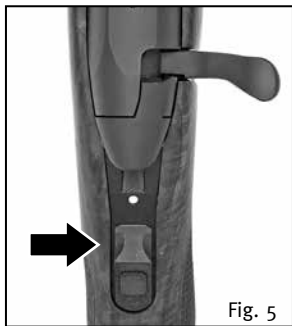

Fig. 5
If the forward set trigger is cocked, move cocking slide in the most rear position (Fig. 5) to uncock automatically the forward set trigger.
Safety Position (Fig. 5):**Firing pin is cocked:**
If the forward set trigger is cocked, move cocking slide to the most rear position (Fig.5) to automatically uncock the forward set trigger.
1. Move cocking slide of the rifle to the Safety position (Fig. 5).
By retracting the bolt, the spent cartridge shell will be extracted and ejected. Moving the bolt forward will feed a new cartridge into the cartridge chamber of the barrel. Relock the bolt by turning the bolt handle. Move cocking slide back to the safety position (Fig. 5).
1. Move cocking slide to the safety position (Fig. 5). The white dot is visible.
2. When reinserting the bolt into the receiver the cocking slide should be in safety position (Fig. 5). Hold the bolt by the bolt handle and insert it into the receiver. When inserting the bolt, rotate the bolt so that the bolt handle slides into the slot of the receiver.